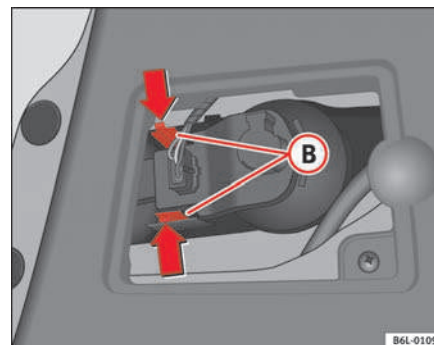

Fig. 154 Rear light on tailgate
- Press the tabs **(B)** ⇒ page 218, fig. 154 of the lamp holder and remove lampholder.